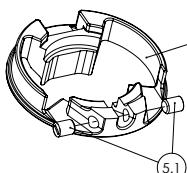

Fig. 11
- 7 / Tighten the brake liner with the plastic screws ⑯ (Fig.11).